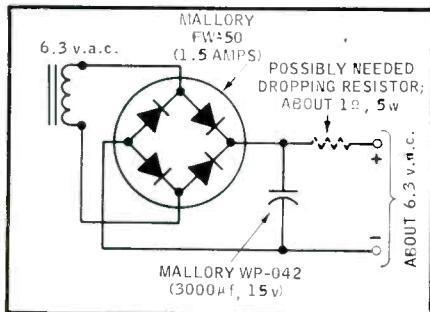

fig. 1
A. The circuit of Fig. 1 will convert 6.3 volts a.c. to about 6.3 volts d.c. The full-wave bridge is a Mallory FW-50, which can supply up to about 1.5 amps provided it is operated in an ambient temperature not above 50° C (122° F). Most audio tubes operated at 6.3 volts draw about 300 MA, so that you can sup-